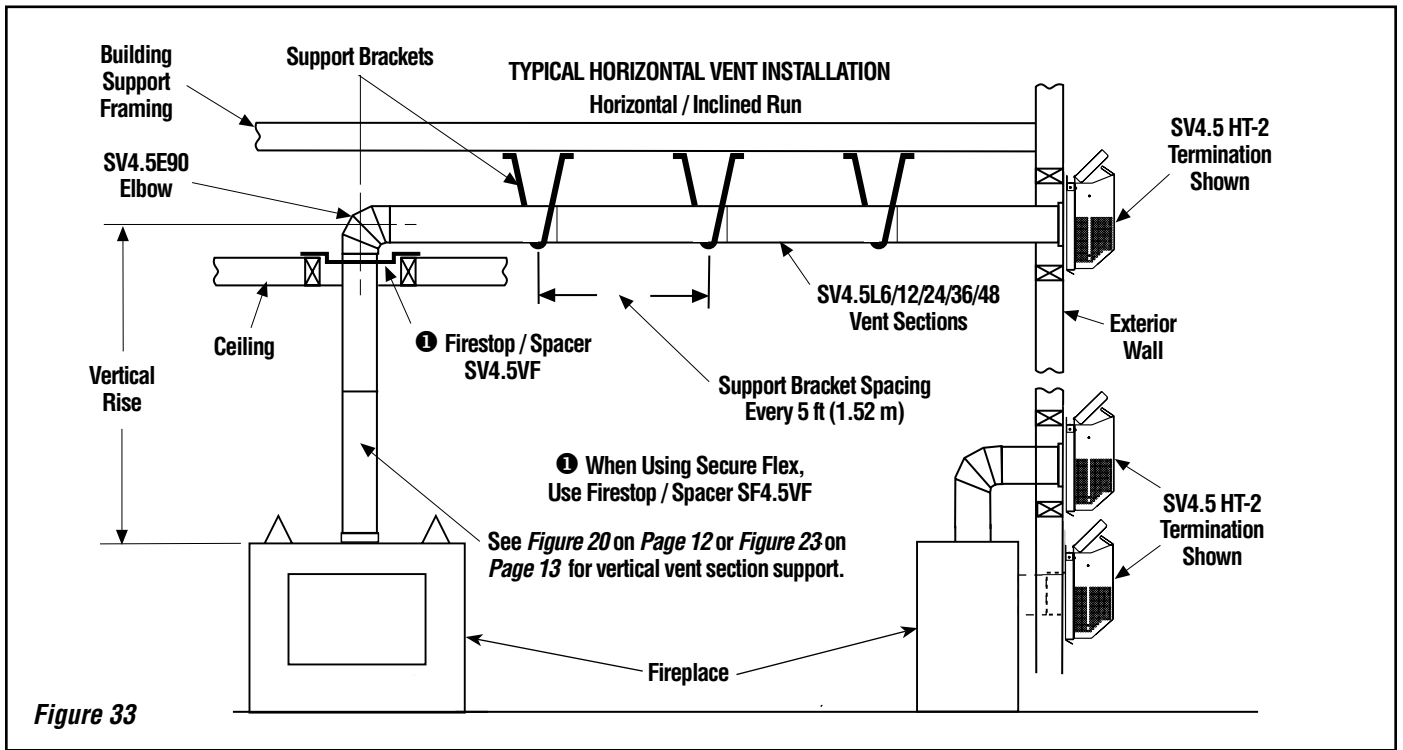

Figure 33
G. Continue installation of horizontal/inclined sections - Continue with the installation of the straight vent sections in horizontal/inclined run as described in **Step C**. Install support straps every 5 ft. (1.52 m) along horizontal/inclined vent runs using conventional plumber's tape. **See Page 17, Figure 33. It is very important that the horizontal/inclined run be maintained in a straight (no dips) and recommended to be in a slightly elevated plane, in a direction away from the fireplace of 1/4" rise per foot (20 mm per meter) which is ideal, though rise per foot run ratios that are smaller are acceptable all the way down to at or near level.** Use a carpenter's level to measure from a constant surface and adjust the support straps as necessary.
Figure 33 on Page 17, and Figures 34 to 42 on Pages 18 to 21 and their associated Horizontal Vent Table illustrate the various horizontal venting configurations that are possible for use with these appliances. **Secure Vent** pipe applications are shown in these Figures; **Secure Flex** pipe may also be used. A Horizontal Vent Table summarizes each system's minimum and maximum vertical and horizontal length values that can be used to design and install the vent components in a variety of applications.
See **Figure 33**. **It is very important that the horizontal/inclined run be maintained in a straight (no dips)** and recommended to be in a slightly elevated plane, in a direction away from the fireplace of 1/4" rise per foot (20 mm per meter) which is ideal, though rise per foot run ratios that are smaller are acceptable all the way down to at or near level.